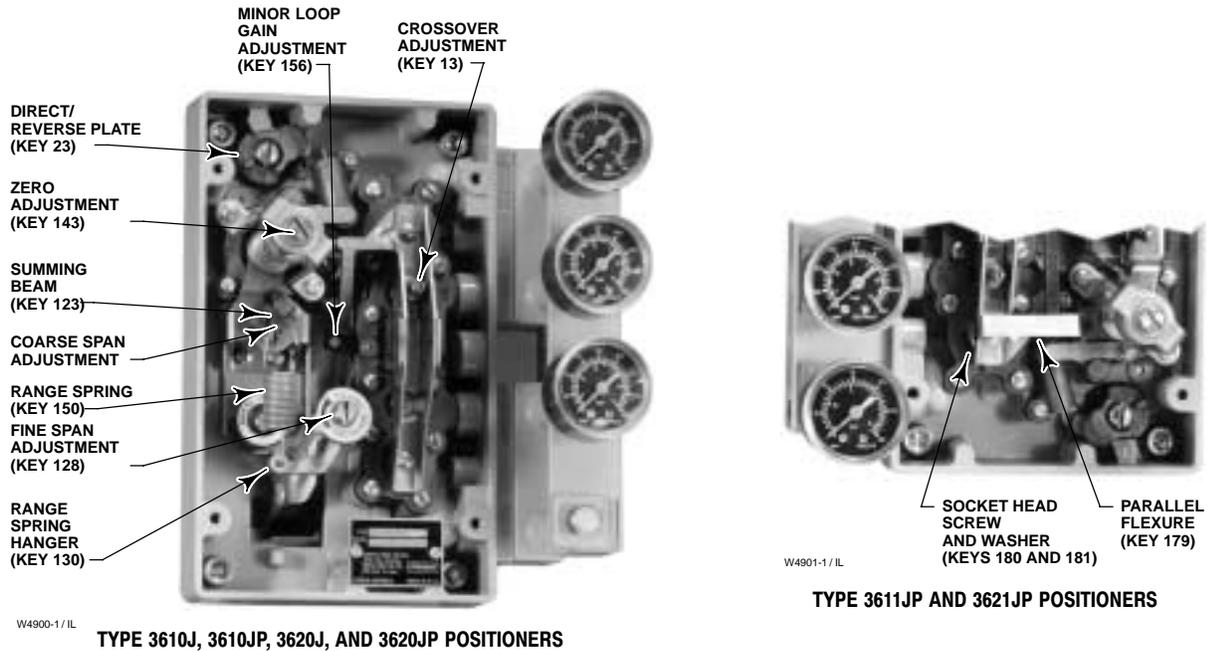
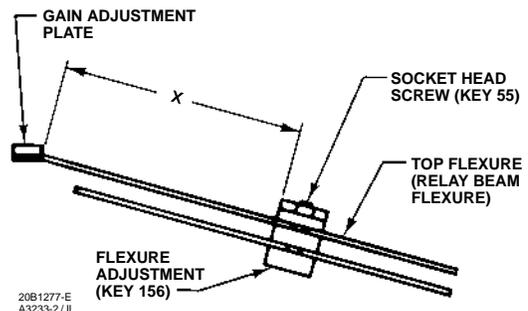

Figure 13. Calibration Adjustments
Figure 14. Minor Loop Gain Adjustment
All 3610J and 3620J Series positioners have the same basic construction. For the Type 3611JP or Type 3621JP, a parallel flexure (key 179, figure 13) is added (not required on Type 585 size 100 actuator). When changing positioner types, other parts may require changing, such as the nozzle
Refer to figure 25 for key number locations. Adjustments are shown in figure 13.
Figure 13 shows the minor loop gain adjustment location. As shown in figure 14, the adjustment is made by moving the flexure adjustment (key 156) along the top flexure.
The table in figure 14 and a label inside the positioner cover (key 41, figure 28) recommend flexure adjustment starting positions for various actuator types. Start with the flexure adjustment set to the recommended starting distance from the gain adjustment plate, the X dimension in figure 14. To adjust the minor loop gain, proceed as follows:
2. Refer to figures 13 and 14 and identify the gain adjustment plate, the flexure adjustment (key 156), and the X dimension between the plate and the adjustment.
3. Loosen the flexure adjustment socket head screw (key 55, figure 14) and slide the flexure adjustment on the flexures to increase or decrease the X dimension. Moving the flexure adjustment in the direction of the arrow on the top flexure (decreasing the X dimension) slows the positioner response. Moving the flexure adjustment in the opposite direction speeds up the positioner response.
5. Using a screwdriver, turn the crossover adjusting screw (key 13, figure 13) counterclockwise until the OUTPUT A pressure gauge reads zero pressure; then turn it clockwise until full supply pressure is obtained. Once supply pressure is obtained, turn the adjusting screw an additional four, 360-degree turns clockwise. The gauge should read supply pressure.
5. Rotate the zero adjustment screw (key 143, figure 13) until the actuator is at the starting point position (fully up or down depending on the action selected) corresponding to the low input signal. Clockwise rotation of the zero adjustment screw retracts the actuator stem.
6. Slowly increase the input signal toward the high end of the input signal range and observe the actuator stroke. If the actuator stroke is short of its expected range, increase the travel by rotating the fine span adjustment screw (key 128, figure 13) counterclockwise with a screwdriver. If the actuator reaches the end of its desired travel with an input signal less than the high value of the input signal range, decrease the travel by rotating the fine span adjustment screw clockwise with a screwdriver.